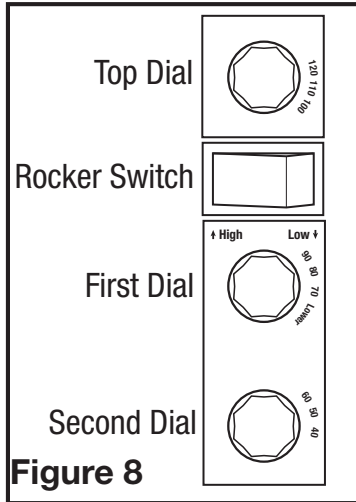

Figure 8
- For setting of 40 CFM to 60 CFM:** Place the rocker switch in the "Low" position and the first dial in the "Lower" position then set the second dial to the required CFM (**Figure 8**).
- For settings of 70 CFM to 90 CFM:** Place the rocker switch in the "Low" position and set the first dial to the required CFM (**Figure 8**).
- For settings of 100 CFM to 120 CFM:** Place the rocker switch in the "High" position and set the top dial to the required CFM (**Figure 8**).